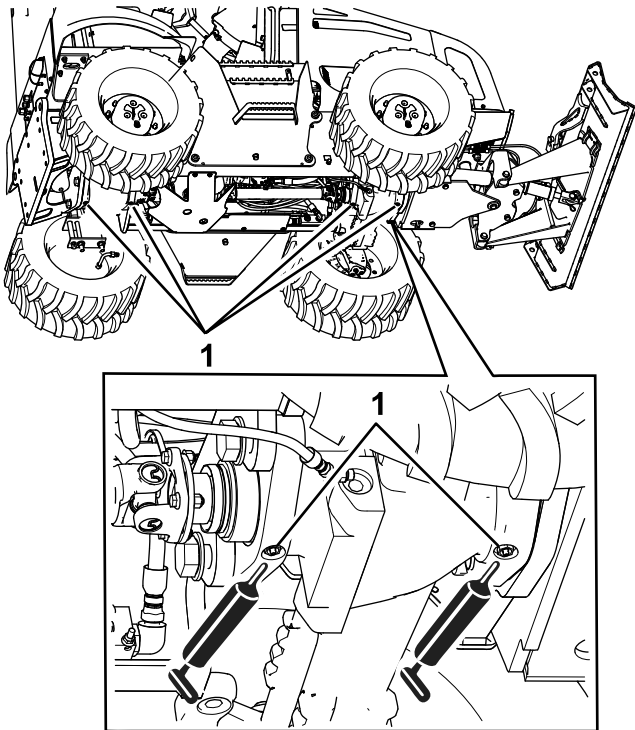

Figure 56
3. Connect the grease gun to the grease fittings for the forward- and rear-axle tilt pivots; apply 2 or 3 pumps of grease to each fitting (Figure 56).